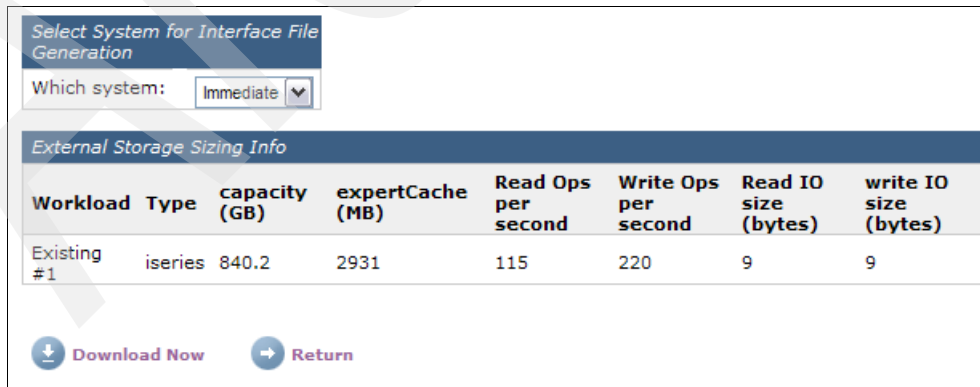

Figure 4-103 Selecting a system to size external storage
11. The Selected System - External Storage Sizing Information panel displays as shown in Figure 4-103. For Which system, select either **Immediate** or **Growth** for the system for which you want to size external storage. In our example, we select **Immediate** to size our external storage. Then click **Download Now**.